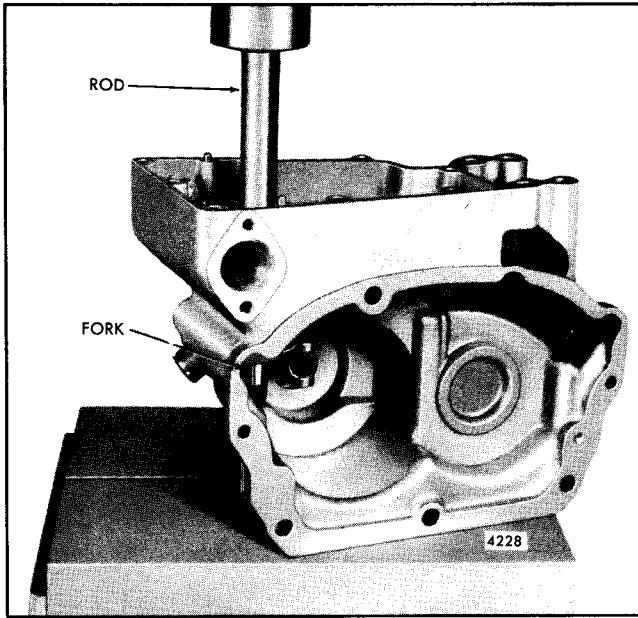

Fig. 10 - Installing Governor Operating Shaft Fork on Operating Shaft and Bearing Assembly using Tools J 21995-1 and J 21995-2
- e. Support the housing, lever, shaft, fork and installer, right side up, on the bed of an arbor press as shown in Fig. 10, with the end of the installer pin resting on the bed of the press and the disc centered under the bottom of the operating fork. Then place a short rod on the top end of the operating shaft and press the shaft into the fork until the fork is flush with the end of the shaft. Remove the fork installer disc and rod from the housing.